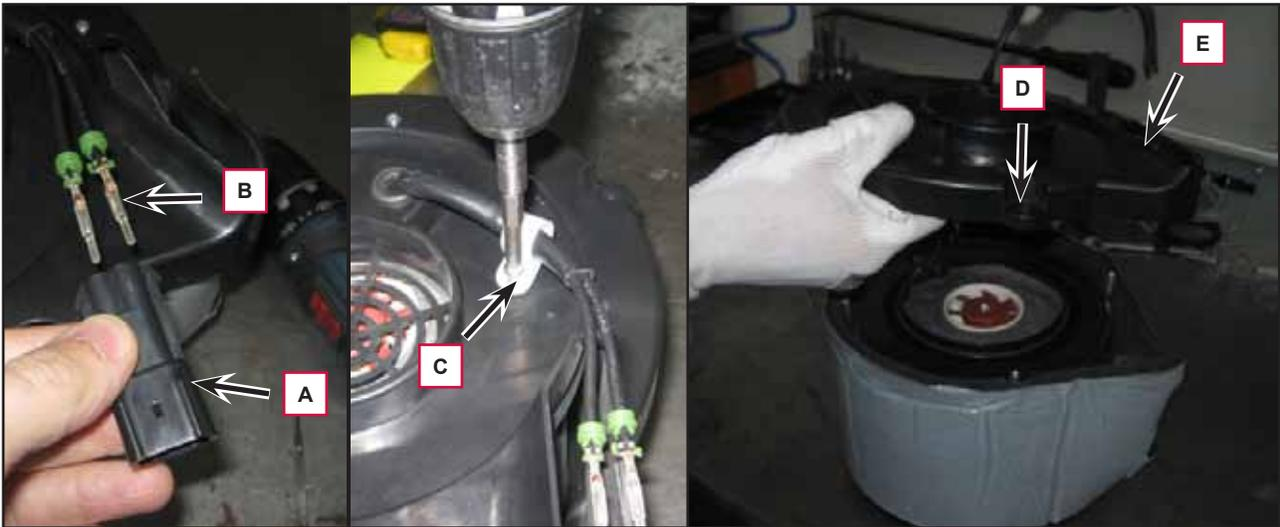

Figure 7
2. At the workbench, remove the connector (A) (Figure 7) from the faston terminals (B).
3. Remove the clamp (C).
4. Remove the 4 screws (D) and remove the cover (E).